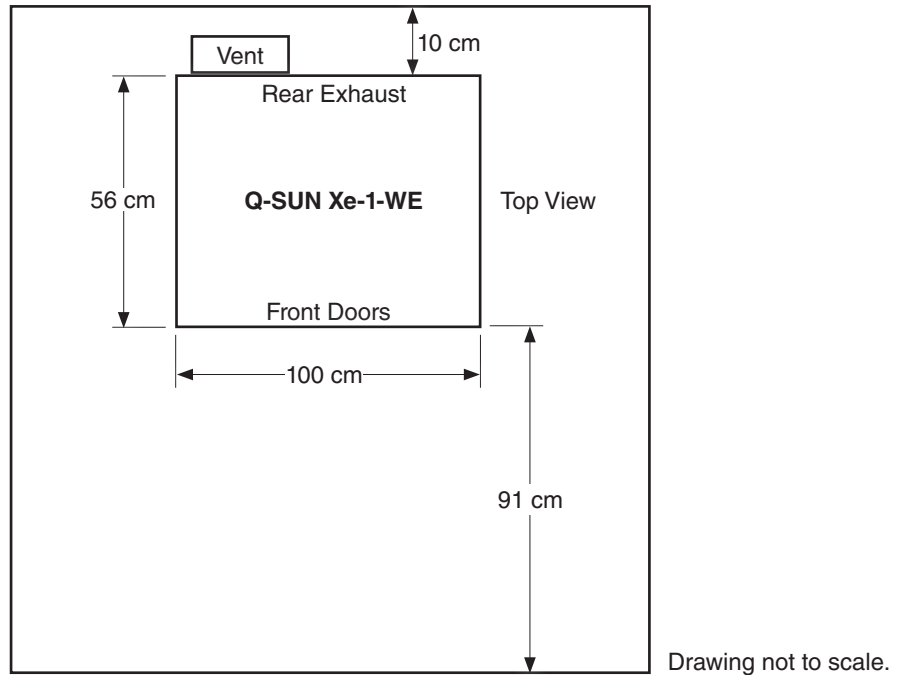

Figure 6.1c: Q-SUN Xe-1-WE minimum clearance and counter space requirement.
- Figure 6.1c shows external dimensions and space requirements